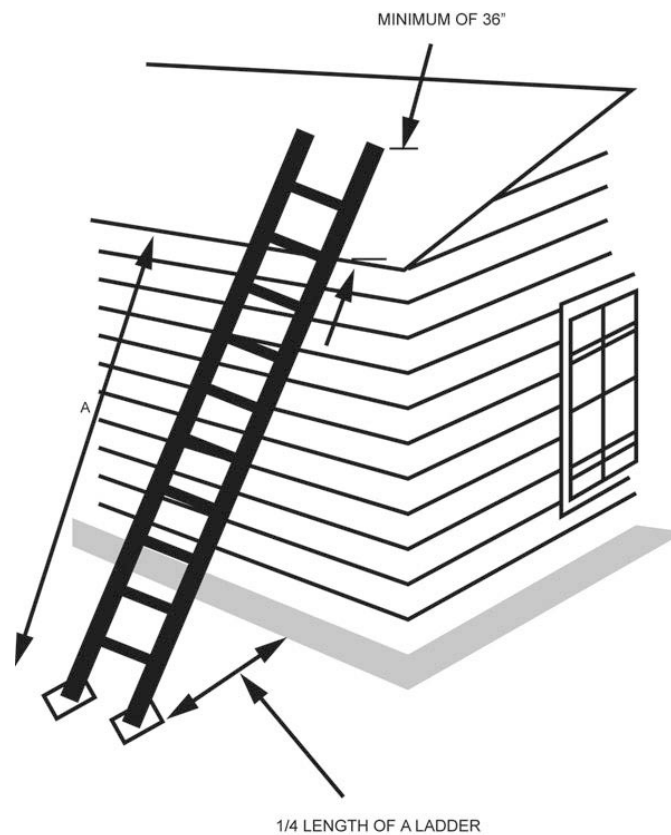

Figure 4-75. Placing a long ladder.
- If you use a ladder to get onto a roof or scaffold, the ladder must extend at least 36- inches above the top edge of the eave, as shown in figure 4-75.